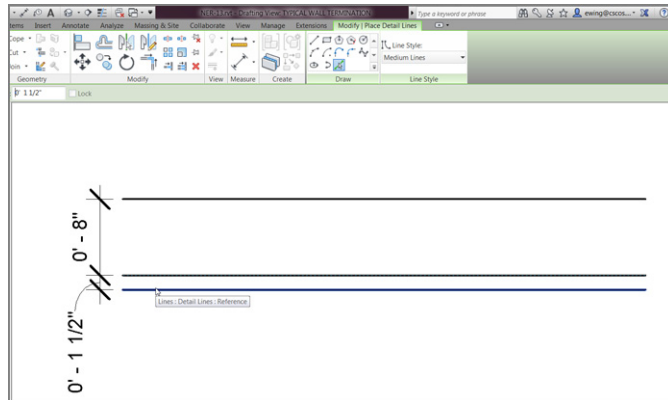

FIGURE 12.57: Using Pick Lines and adding an offset of 1 1/2" (38mm)
8. Offset the bottom line down 1 1/2" (38mm). Your detail should look like Figure 12.57.